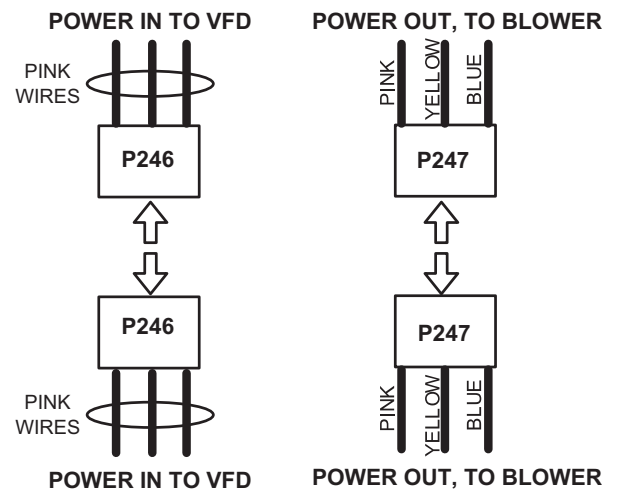

FIGURE 26
3. Disconnect P246 from P246 (power in to VFD) and P247 from P247 (power out to blower). See FIGURE 26.